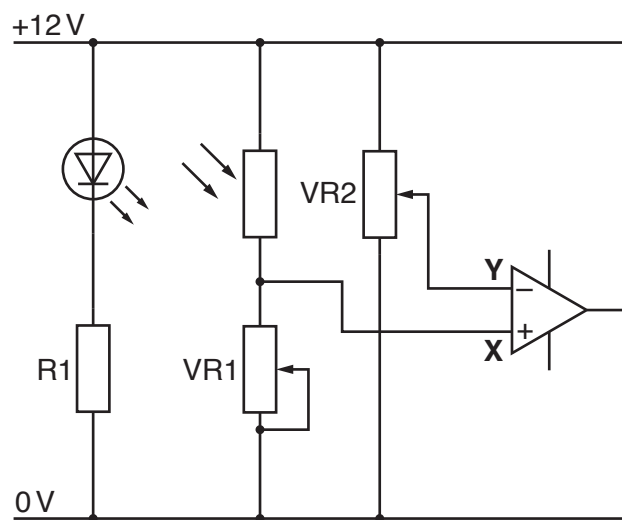

Fig. 20
- (i) Part of the operating circuit for the conveyor belt is shown in Fig. 20.